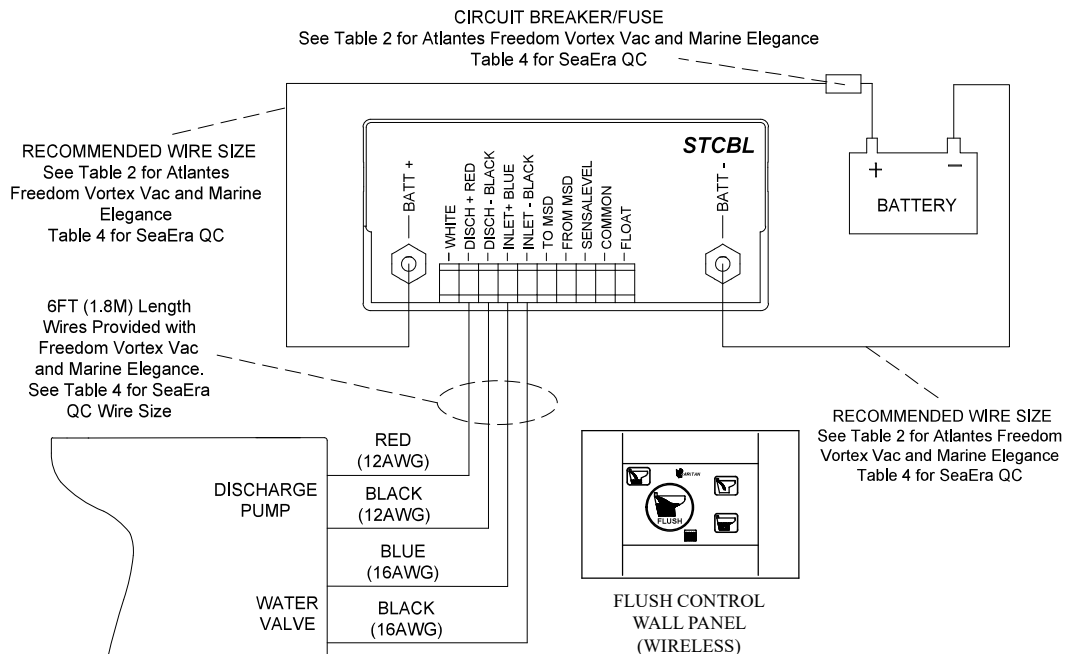
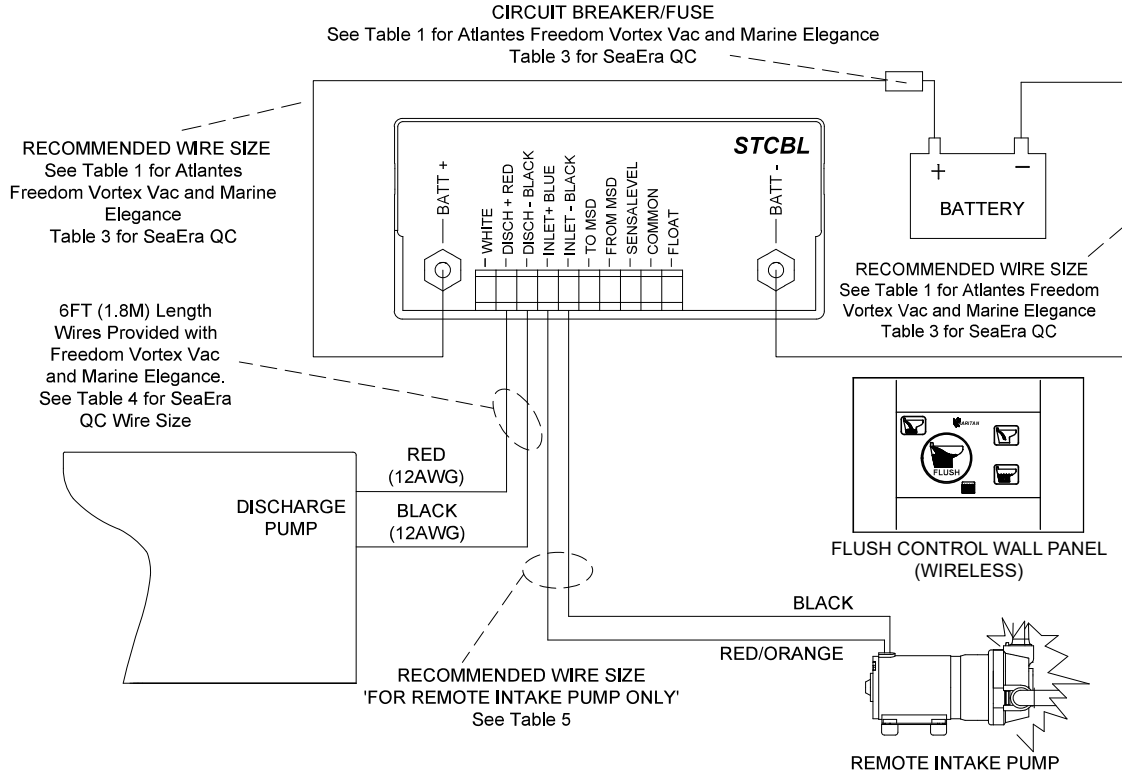

FIG 5
FIG 6
- Remote pump units: Determine proper wire size for remote pump from wiring diagram on page 4 (FIG 5 and FIG 6, see Table 5).